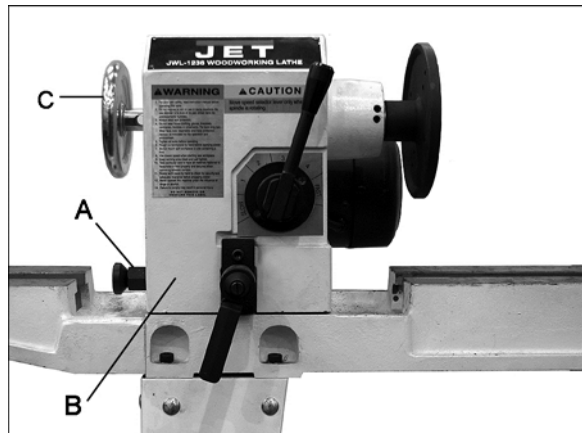

Figure 2
4. Join the two leg assemblies by attaching long braces (G) to each leg and fastening with eight 5/16"x1" carriage bolts (C), eight 5/16" flat washers (D), eight 5/16" lock washers (E) and eight 5/16" hex nuts (F). Remember to hand tighten only at this time.
5. Attach short braces (H) to each end of the stand using four 5/16"x1" carriage bolts (C), four 5/16" flat washers (D), four 5/16" lock washers (E), and four 5/16" hex nuts (F).
*Referring to Figure 2:*
12. Insert index plunger (A, Figure 2) into the base of the headstock (B, Figure 2) and tighten.
13. Mount the handwheel (C, Figure 2) to the headstock. Note: The handwheel must be removed whenever the drift rod is to be used.